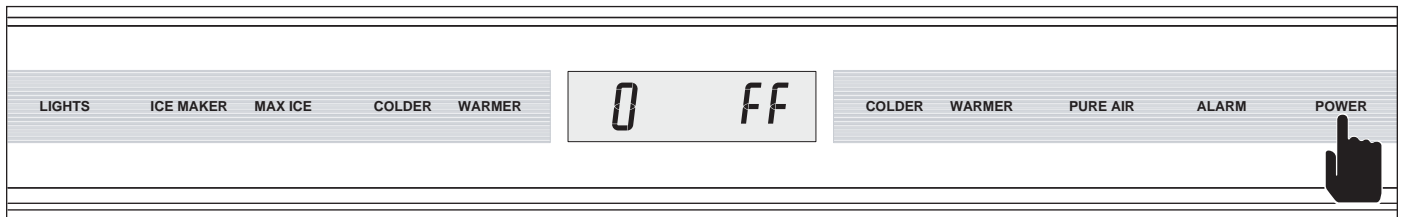
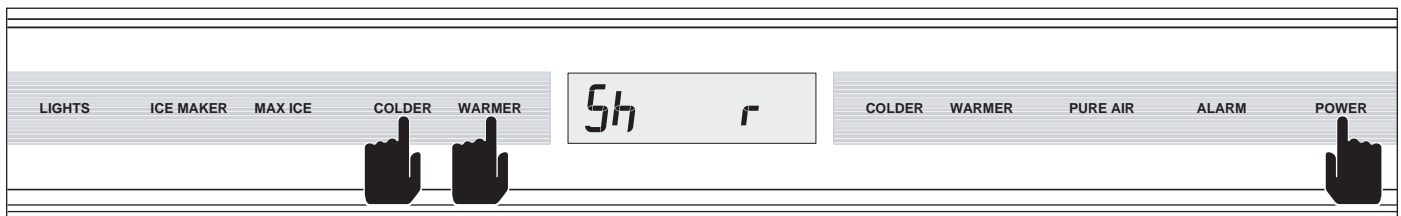
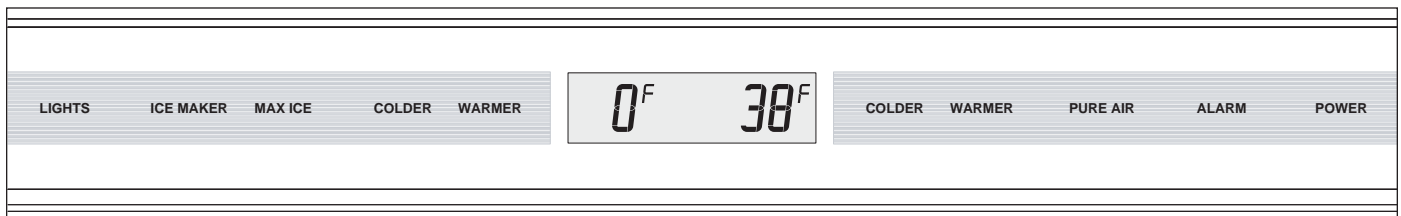

Figure 3-21. To Enter (or Exit) Showroom Mode, Switch Unit OFF First
Figure 3-22. Then Press and Hold Either Pair of WARMER and COLDER Keys, Then the POWER Key - “Sh” and “r” appear for 5 Seconds
Figure 3-23. Set-points Appear in LCD 5 seconds after Showroom Mode is Initiated
To initiate Showroom Mode, the unit must first be switched OFF using the POWER key (See Figure 3-21). Then, press and hold either pair of WARMER and COLDER keys, then the POWER key, at which point three (3) beeps will be emitted and “Sh” and “r” will appear in the LCD for five (5) seconds indicating the appliance is now in showroom mode (See Figure 3-22). After the initial five seconds, set-points will appear in the LCD (See Figure 3-23).